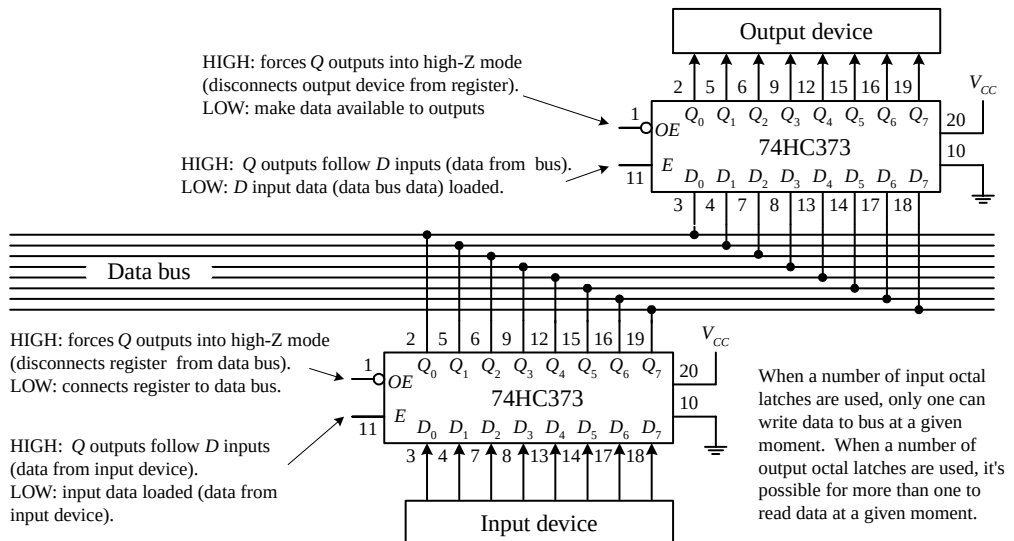

FIGURE 12.133
The 73xx373 octal latch contains eight D-type “transparent” latches. When its enable input (E) is high, the outputs (Q_0 – Q_7) follow the inputs (D_0 – D_7). When E is low, data present at the inputs are loaded into the latch. To place the output in a high-impedance state, the output enable input ($\overline{OE}$) is set high. Figure 12.133 shows a simple bus-oriented system that uses two 73HC373s to communicate with an input device and output device. Again, like the octal buffers, control signals are typically supplied by a microprocessor.